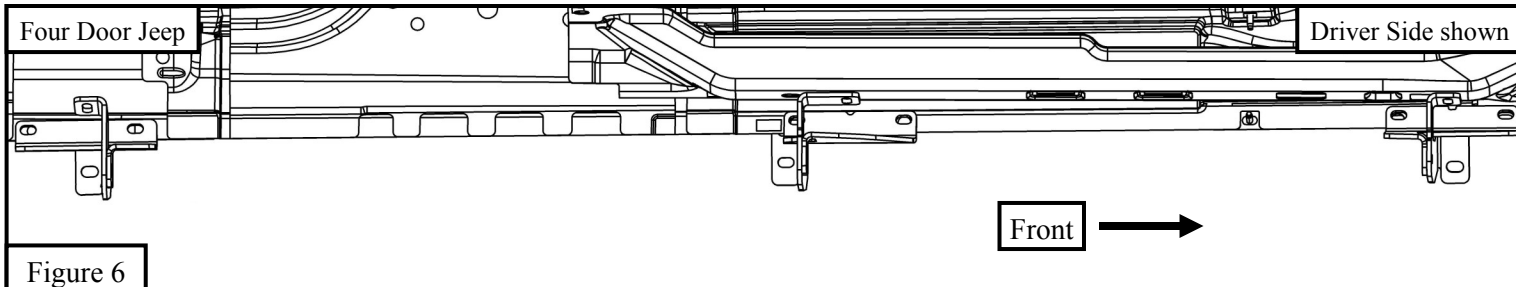

Figure 6
8. Repeat steps 2 - 4 and 7 for passenger side on 4 door Jeeps and steps 5 - 7 for 2 door Jeeps. See **Figures 6 and 7** for bracket orientation.